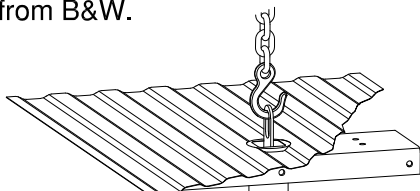

Figure A1
4. **Prepare a lifting device (optional).** The purpose of the device is to safely hold the hitch in position during part of the installation. See figure A1 for an example. A simple mechanical lifting device is available for purchase from B&W.